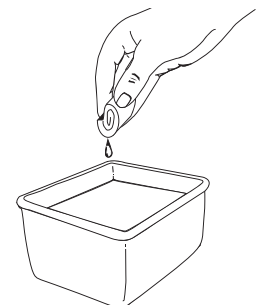

Fig. 23
3. Wash the filter in detergent and water (Fig. 23). Rinse the filter thoroughly and allow it to dry.